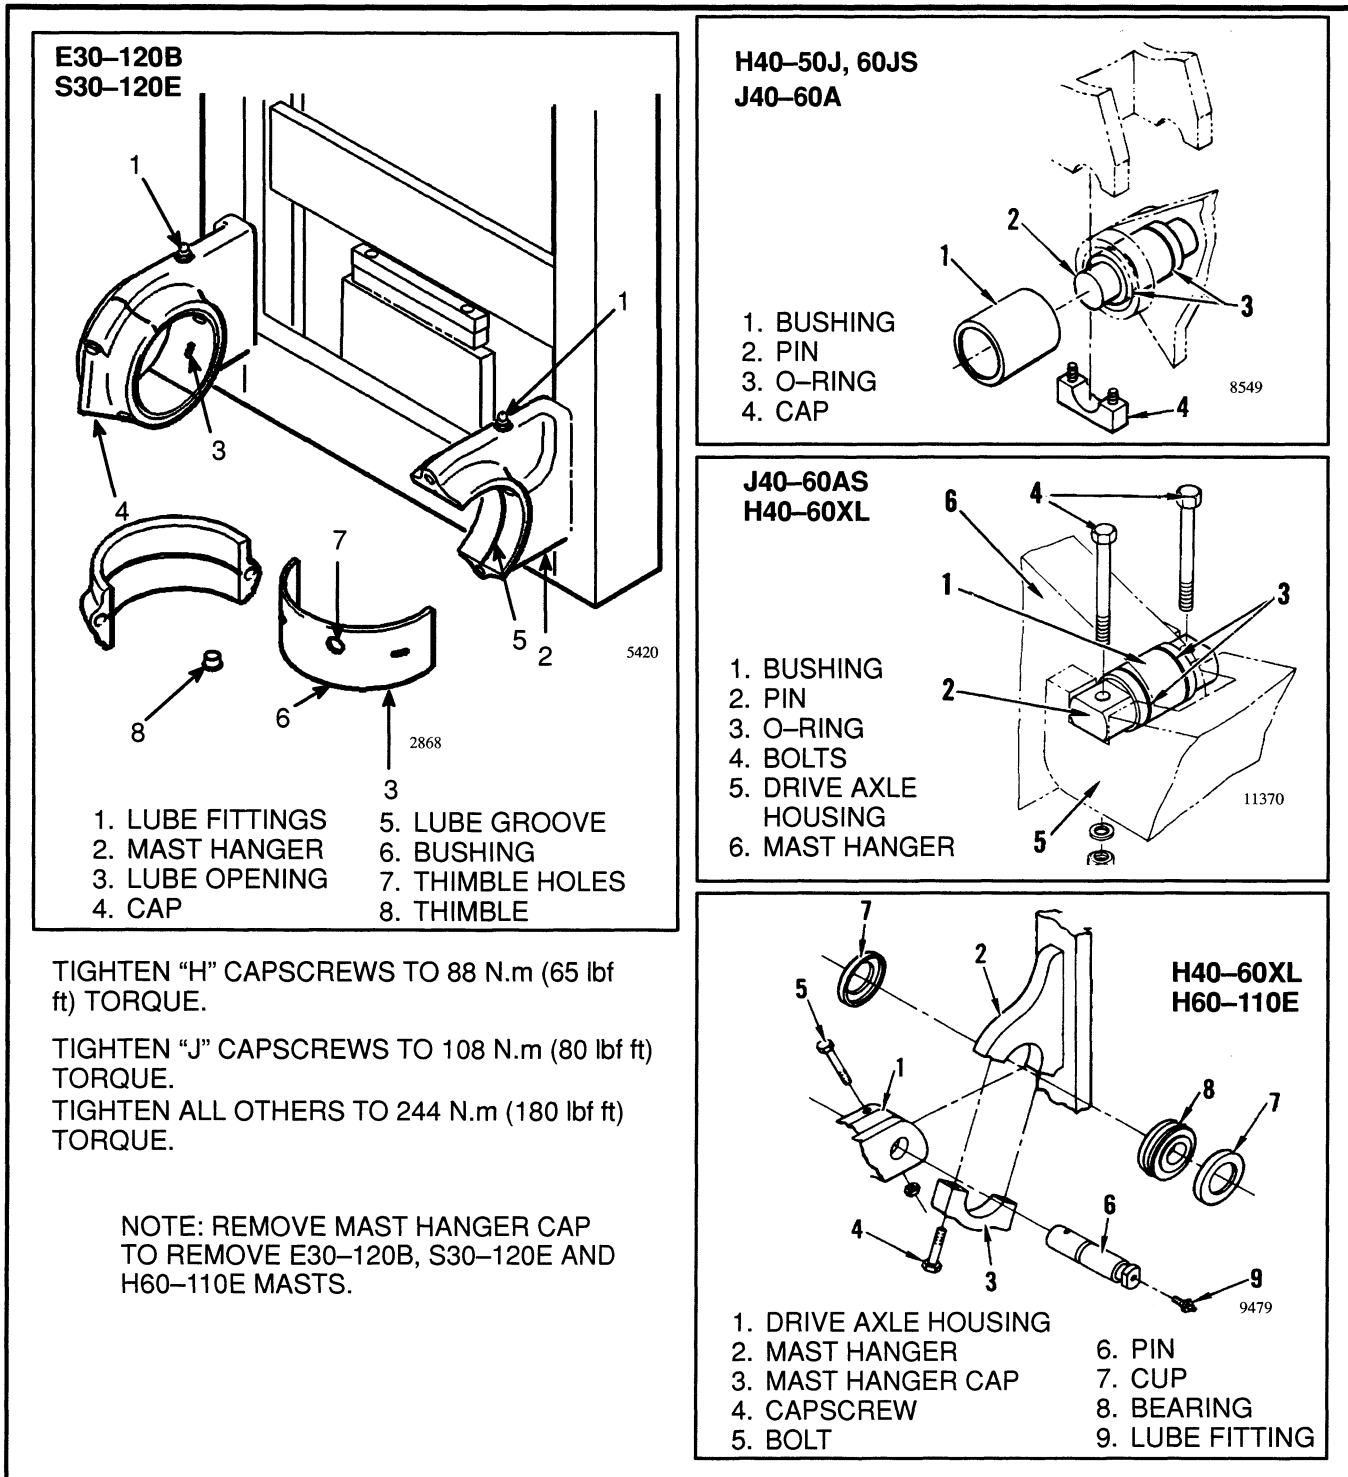

FIGURE 3. MAST PIVOTS
4. Make marks on the caps so that they will be replaced in the same position. Make sure the mast assembly will not move suddenly when the caps are removed. Remove the caps. See FIGURE 3. for the types of pivots and caps.
3. Lubricate the pivots and bushings with multi-purpose grease. See FIGURE 3. for the different designs of pivots and caps.
4. Tighten the cap capscrews to the correct torque. See FIGURE 3.